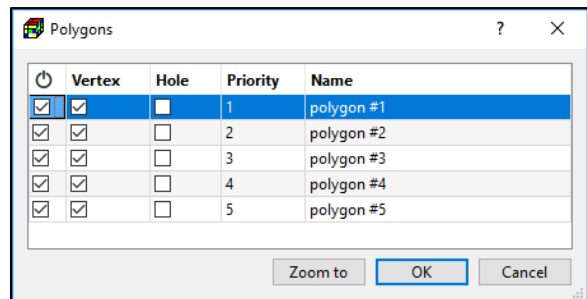

Figure 18. The Polygons dialog box
¹¹ The priority number or the hole settings (see Figure 18) of that polygon are ignored in this case.
5. To manage properties of existing polygons: You can use the Polygons dialog box (Figure 18) to manage the following polygon properties. To open this dialog box, right-click on one of the vertices, then select *Manage Polygons* from the popup menu.